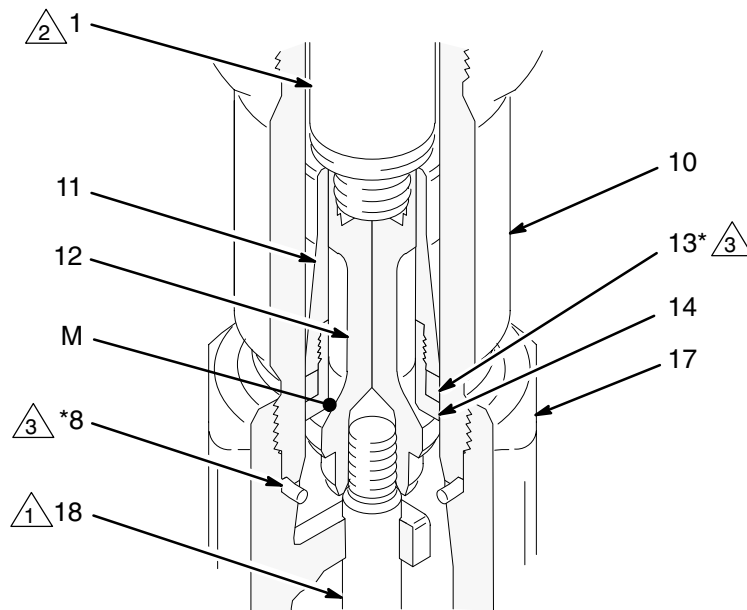

Fig. 11
9. Remove the seal (8) from the bottom of the cylinder (10). See Fig. 11. Shine a light into the cylinder to examine the inside surface for scoring or damage. **Only if the cylinder is damaged, or there is evidence of leaking around the top cylinder seal (8),** unscrew the cylinder from the outlet housing, using a pipe wrench. Remove the top cylinder seal.
10. Place the flats of the displacement rod (1) in a vise. Unscrew the piston (12) from the displacement rod; the priming piston rod (18) will come with it. Slide the piston guide (11) and seat (14) off the piston (12).
11. It is not necessary to remove the priming piston rod (18) from the piston (12) unless your inspection reveals damage to either part. To disassemble, place the piston flats in a vise and unscrew the rod.
12. Place the piston guide (11) in a vise, as shown in Fig. 10. Using an adjustable wrench, unscrew the piston seat (14) from the guide. Remove the seal (13); always replace it with a new one. Inspect the mating surfaces (M) of the piston (12) and piston seat (14) for damage or wear. See Fig. 11.
-  1 Piston check valve (see Fig. 11).